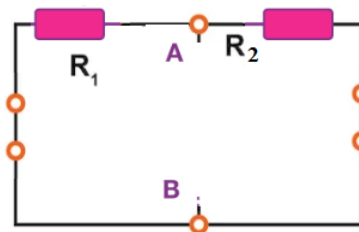
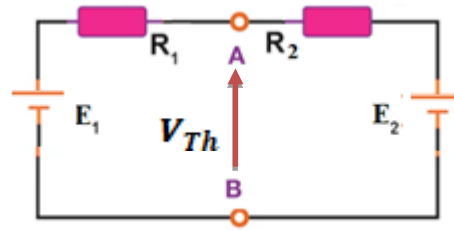

Figure 1:
Figure 2:
**Step 5:** Draw the Thevenin's equivalent circuit. The Thevenin's equivalent circuit consists of a series resistance of  $R_{Th}$  and a voltage source of  $V_{Th}$ . Our circuit in Figure 1 can be reduced to the Thevenin equivalent circuit in Figure 2 after the Thevenin conversion process.
Consider the circuit in Figure 1 with  $E = 10$  volts,  $R_1 = 5.1$  k $\Omega$ ,  $R_2 = 8.6$  k $\Omega$ ,  $R_3 = 6.5$  k $\Omega$ , and  $R_4 (R_{Load}) = 4$  k $\Omega$ .